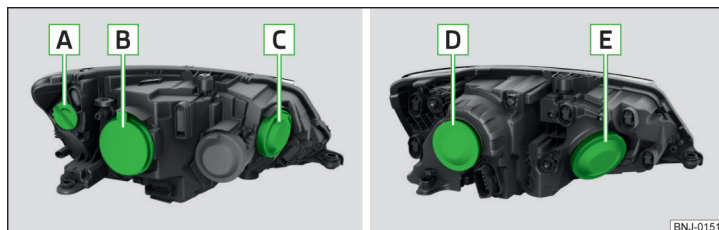

Fig. 203 Principle sketch: Halogen headlights/halogen projector headlights
Bulb arrangement » Fig. 203
- Remove the protective cap **B** » Fig. 203 on page 185.
- Fit protective cap **B** » Fig. 203 on page 185.
- Remove the protective cap **C** » Fig. 203 on page 185.
- Fit protective cap **C** » Fig. 203 on page 185.
➤ Remove the protective cap **B** » Fig. 203 on page 185.
➤ Fit protective cap **B** » Fig. 203 on page 185.
- Remove the protective cap **D** » Fig. 203 on page 185.
- Fit protective cap **D** » Fig. 203 on page 185.